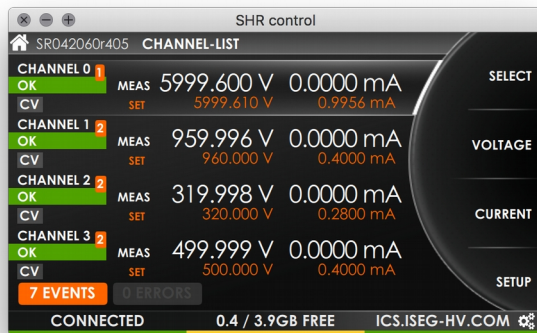

Figure 5 - SHRcontrol CHANNELLIST VIEW
- All Channels and device: Click on on the event / error badge on the botton of the screen (here „7 EVENTS“, see Figure 5 - SHRcontrol CHANNELLIST VIEW)